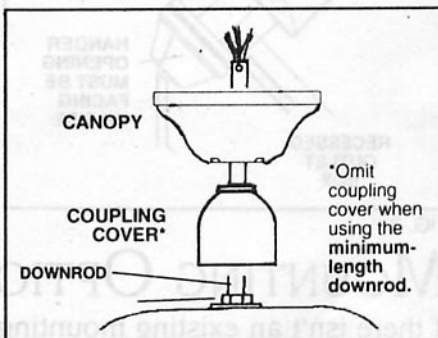

FIG. 9
Step 5. Slip coupling cover, and canopy onto downrod. (Fig. 9). Carefully reinstall hanger ball onto rod being sure that crosspin is in correct position, set screw is tight and wires are not twisted.